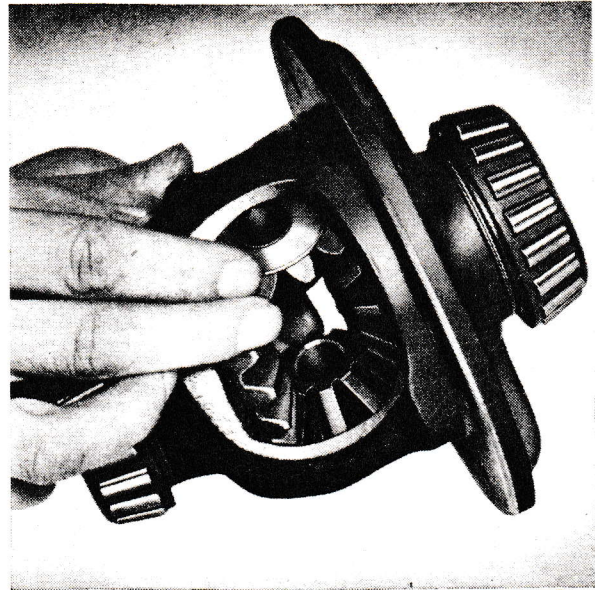
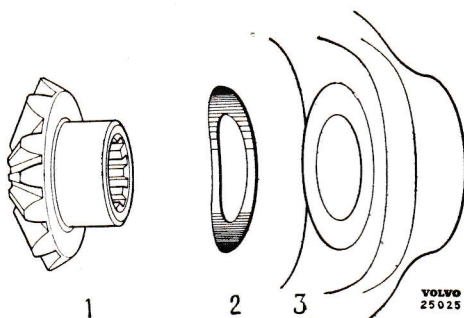

Fig. 16. Assembling the differential gears.
Fig. 17. Fitting spring thrust washers.
1. Place the differential side gears (6) with their thrust washer (5) in the differential case (4). Then "roll" in both the differential pinion gears (8) together with the domed thrust washers (11) (both gears at the same time), see Fig. 16.
2. Fit the thrust block (12) and drive in the shaft (10).
3. Check the differential unit. If there is any looseness, fit new thrust washers. The flat thrust washers (5) can be replaced with either oversize washers or spring thrust washers. Fit the spring thrust washers the right way round. The "back" should face the differential case, see Fig. 17. After checking and, if necessary, replacing the washers, fit the lock pin (7).
4. Fit the ring gear (9). Make sure that the contact surfaces are clean and free from burr.